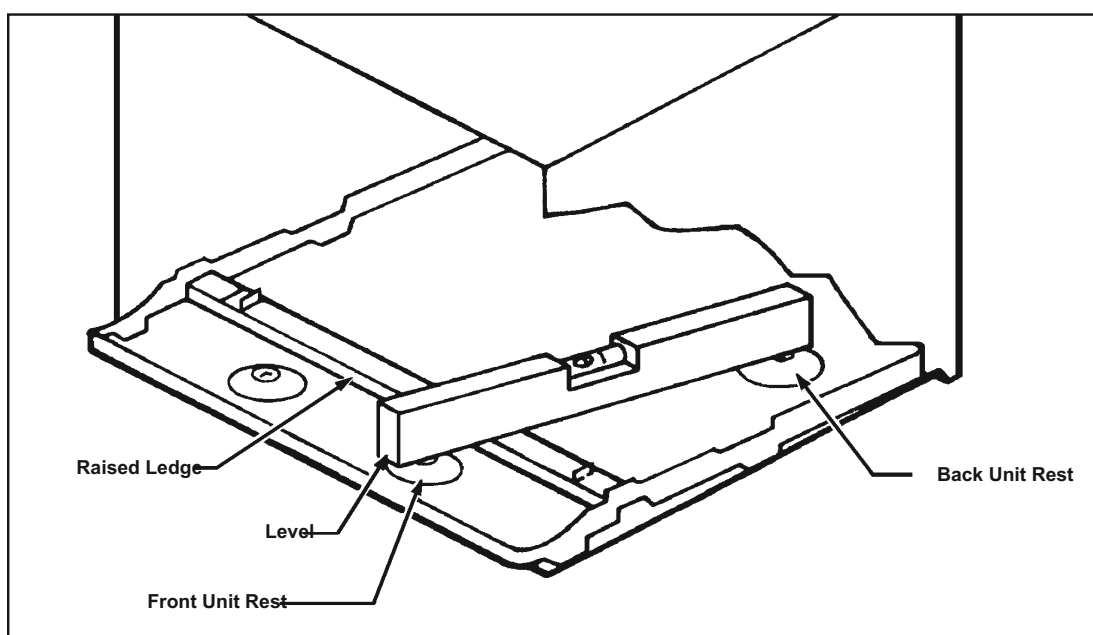

Figure 9
- STEP 4** The "WSC" SLEEVE must also be installed with a downward tilt toward the outside of the building. If a level is placed so that it rests on the FRONT and BACK UNIT REST as shown in Figure 9, a properly installed unit provides a 1/2 bubble slope to the outside of the building.